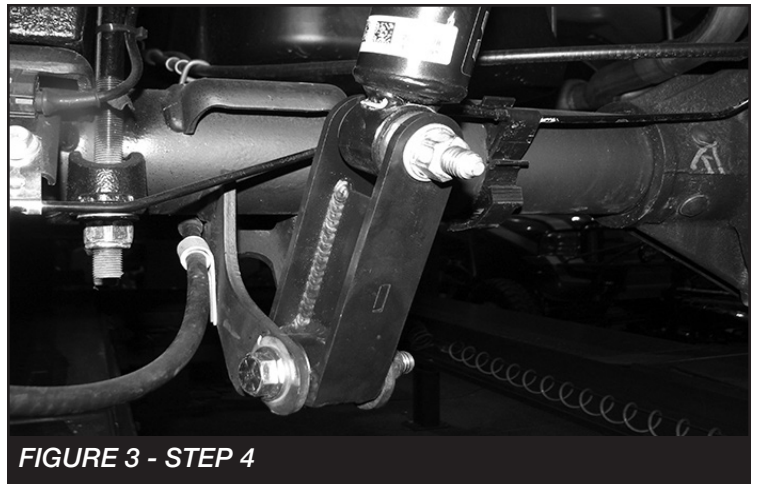

FIGURE 3 - STEP 4
4. Locate the supplied 1/2" hardware. Rotate the shock 90 degrees and install the new bracket to the factory lower shock mount. Torque to 127 ft-lbs. **SEE FIGURE 3**